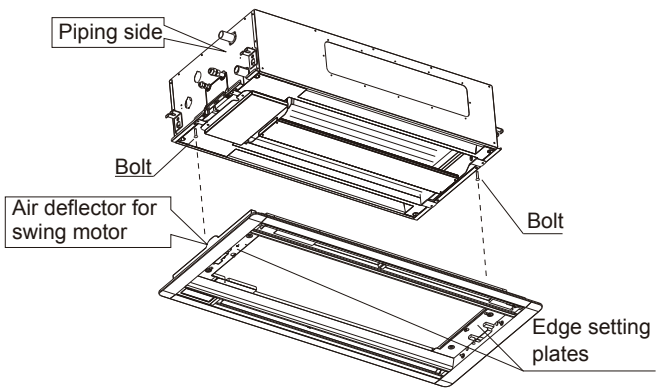
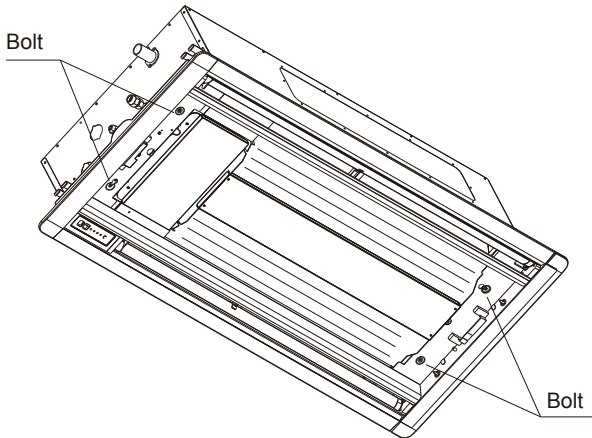

Figure 3.15
Figure 3.16
- (1) Align the air deflector at the swing motor with the corresponding copper pipe connection and water discharge connection of the unit body.
- (2) Place two positioning bolts (from panel accessories) and install them at the corresponding positions of the unit body, as shown in Figure 3-15 (tighten the bolts by about 10 cm).
- (3) Hang the frame setting plates on the panel on the two bolts described in step (2) above (it will be easier to start with the water discharge side).
- (4) Reverse to remove the positioning bolts installed in step (2), and take out the other two bolts from the panel accessories.
- (5) Turn to tighten the four bolts. The mounting position is as shown in Figure 3.16. Secure the panel to the unit body, and make sure that there is no gap between the panel and ceiling.